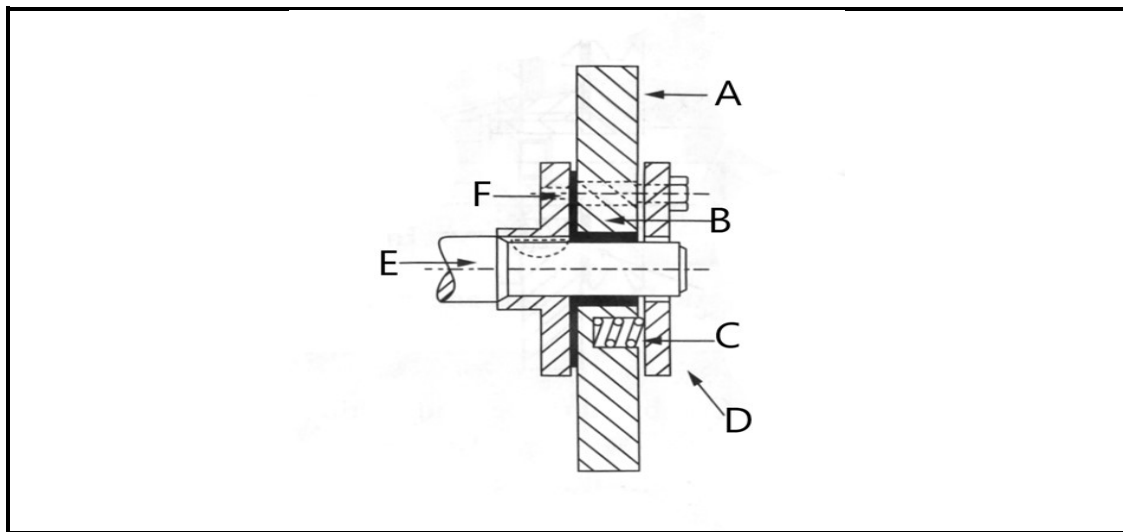

FIGURE 6.1
6.1 FIGURE 6.1 below shows an engine component. Study it and answer the questions that follow.
- 6.1.1 Give the name of the engine component shown in FIGURE 6.1 above. (1)
- 6.1.2 Label the parts of the component from **A–F** in FIGURE 6.1. (6)
- 6.1.4 Describe the operation of the engine component shown in FIGURE 6.1. (4)